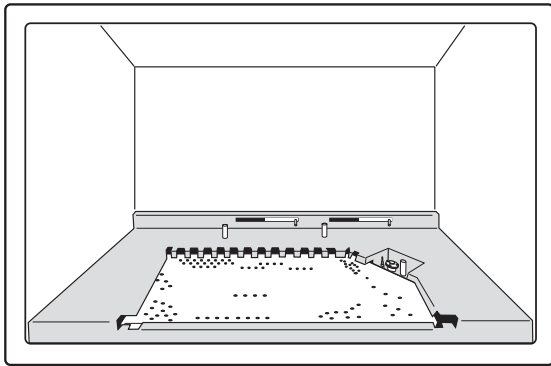

Figure 28. Lift the Burner Skirt up and out of the firebox.
- **Remove the Burner Skirt.** Lift and tilt it to clear the firebox opening. See fig. 28.